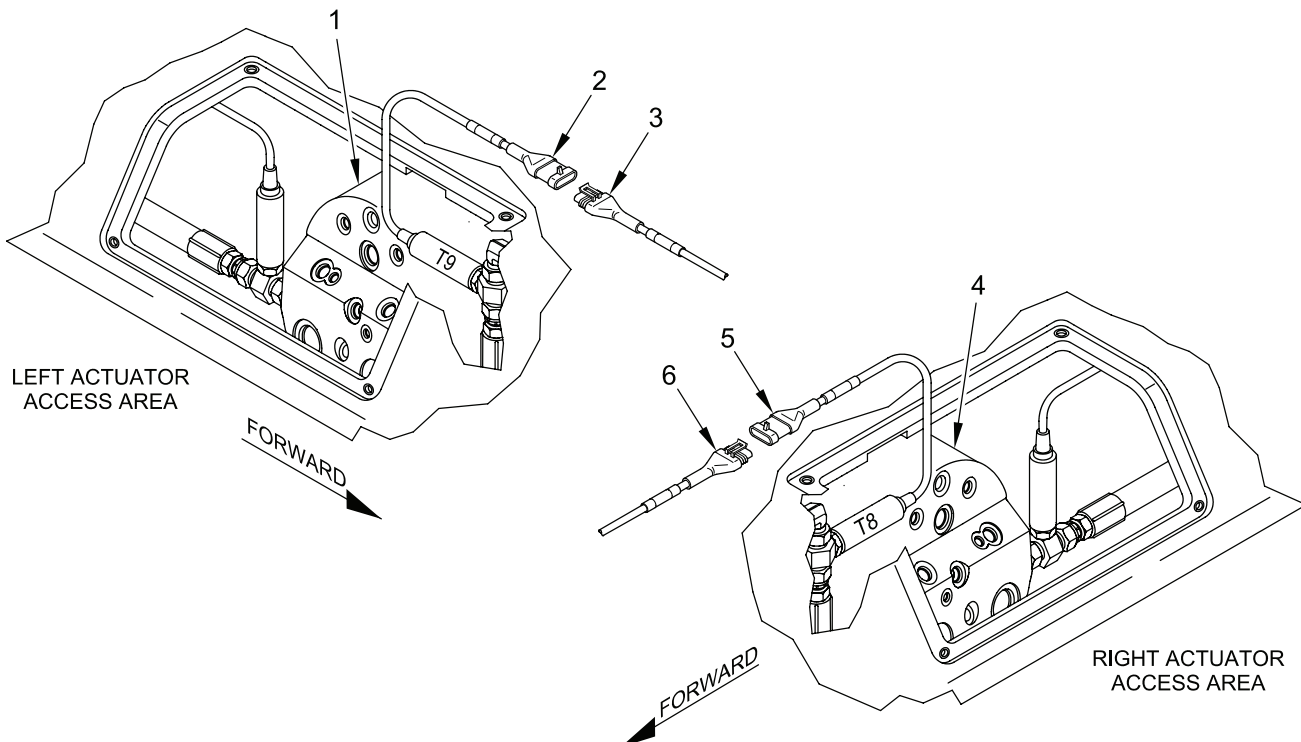

Figure 3. Installing Wiring Harness W3 At Actuator Area
7. Remove wiring harness W3 connector P32 (Figure 3, item 3) from transducer T9 (Figure 3, item 2) at left sprung stop cylinder (Figure 3, item 1).
8. Remove wiring harness W3 connector P33 (Figure 3, item 6) from transducer T8 (Figure 3, item 5) at right sprung stop cylinder (Figure 3, item 4).
2. Connect wiring harness W3 connector P33 (Figure 3, item 6) to transducer T8 (Figure 3, item 5) at right sprung stop cylinder (Figure 3, item 4).
3. Connect wiring harness W3 connector P32 (Figure 3, item 3) to transducer T9 (Figure 3, item 2) at left sprung stop cylinder (Figure 3, item 1).